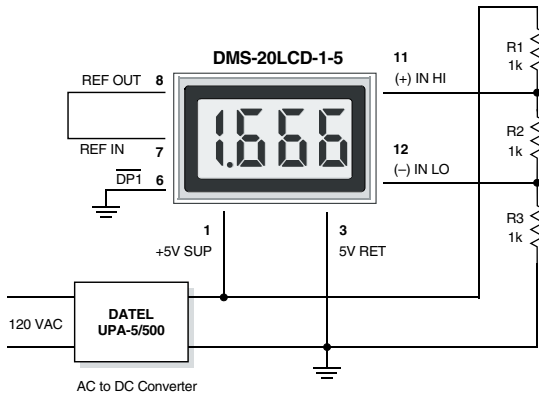

Figure 3. Differential Input Configuration
- 2. Differential Input Configurations:** Differential measurements can be made with either 5V-powered or 9V-powered meters. Figure 3, though not a practical real-world application, uses a voltage divider to demonstrate the concept of a differential input signal. Be careful not to exceed the  $\pm 2\text{V}$  common mode voltage limitation for 5V powered meters.